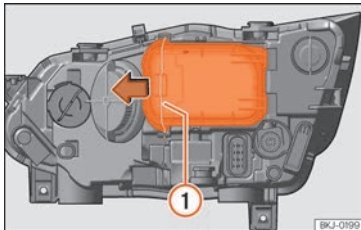

Fig. 52 In the engine compartment: remove the cover.
- Move the loop »» Fig. 52 ① in the direction of the arrow and remove the cover.